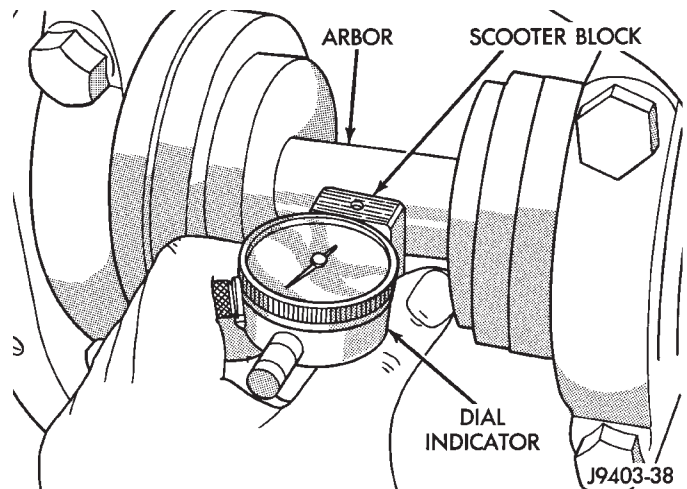

Fig. 81 Pinion Gear Depth Measurement—Typical
(7) With scooter block still in position against the pinion height block, slowly slide the dial indicator probe over the edge of the pinion height block. Observe how many revolutions counterclockwise the dial pointer travels (approximately 0.125 in.) to the out-stop of the dial indicator.
(8) Slide the dial indicator probe across the gap between the pinion height block and the arbor bar with the scooter block against the pinion height block (Fig. 81). When the dial probe contacts the arbor bar, the dial pointer will turn clockwise. Bring dial pointer back to zero against the arbor bar, do not turn dial face. Continue moving the dial probe to the crest of the arbor bar and record the highest reading. If the dial indicator can not achieve the zero reading, the rear bearing cup or the pinion depth gauge set is not installed correctly.